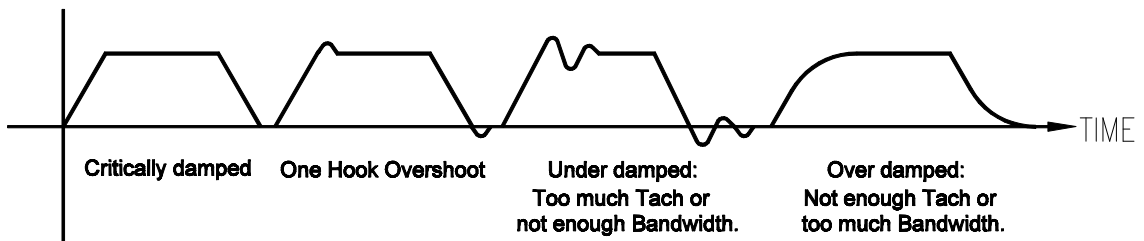

Figure 6.1
7. Pulse the input and compare the waveform with figure 6.1.